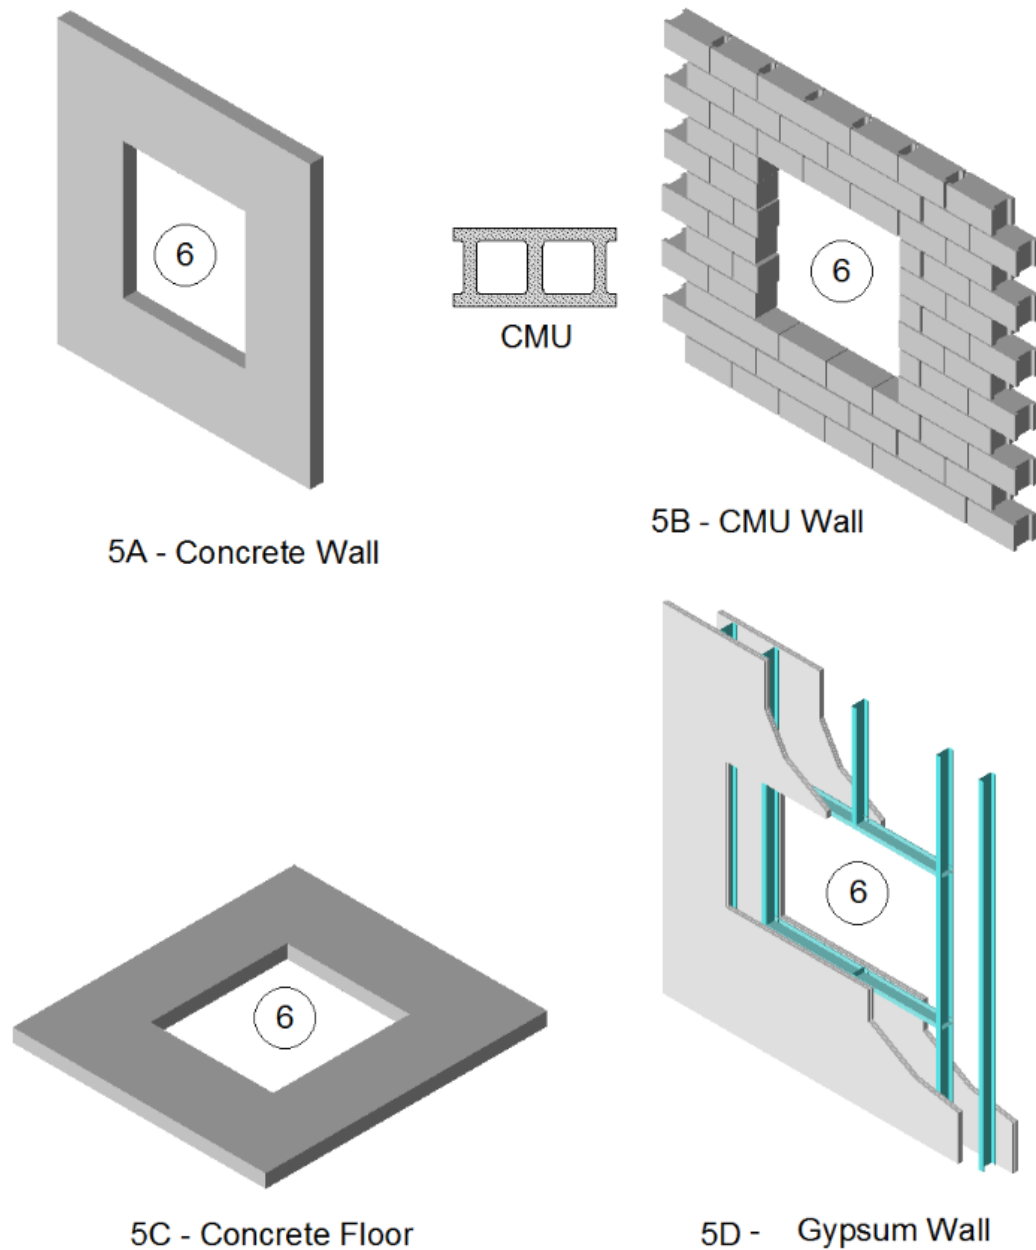

Figure 2. Supporting Construction.
5. SUPPORTING CONSTRUCTION: Refer to Figure 2. Use one of the following wall or floor/ceiling assemblies: